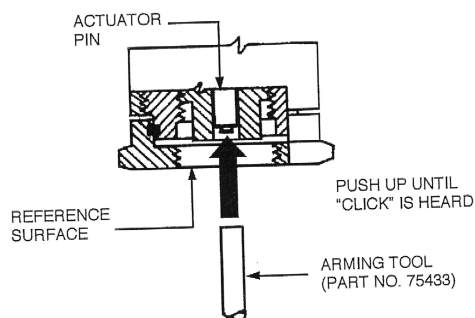

FIGURE 8
5. To arm the actuator, use arming tool (Part No. 75433) to force the pin inside the reference surface until a distinct "click" is heard. (See Figure 8.) To verify that the actuator is properly armed, repeat step 3.